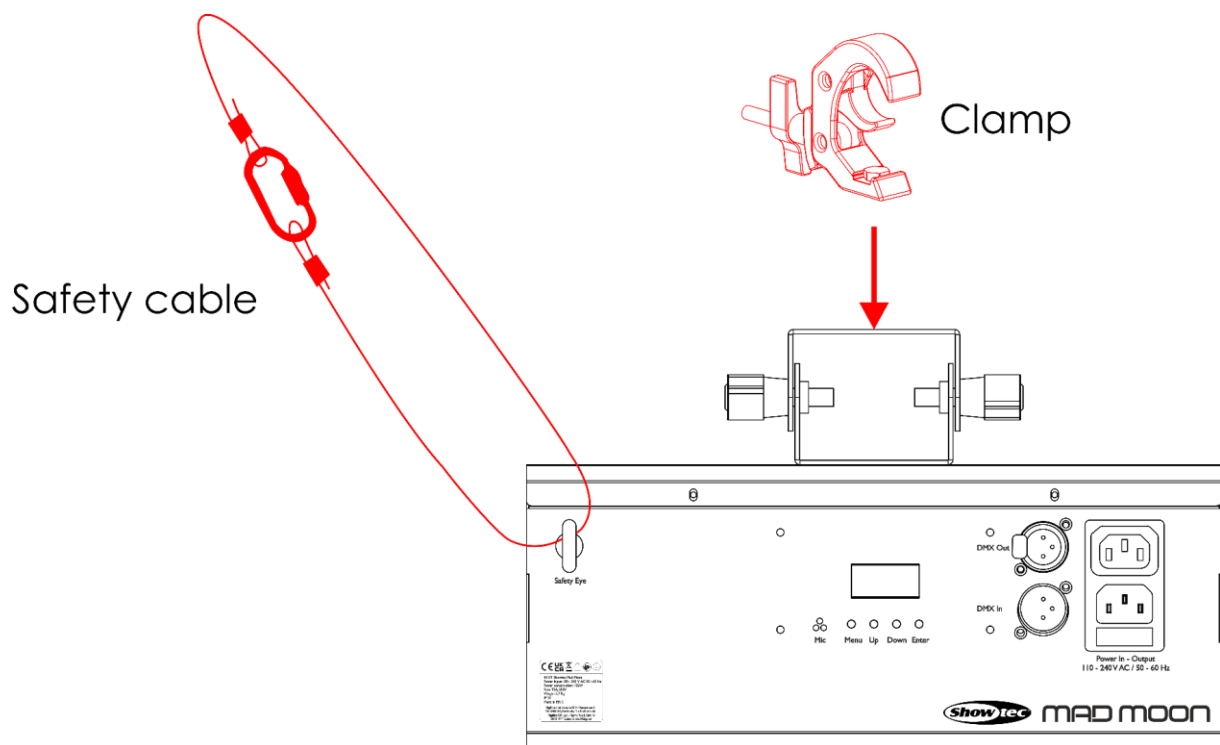

Fig. 06
- 01) Use a clamp to attach the device to the supporting structure, as shown in Fig. 06. Make sure that the device cannot move freely.
- 02) Secure the device with a secondary suspension, for example a safety cable. Make sure that the secondary suspension can hold 10 times the weight of the device. If possible, the secondary suspension should be attached to a supporting structure independent of the primary suspension. Put the safety cable through the **safety eye (12)**, as shown in Fig. 06.